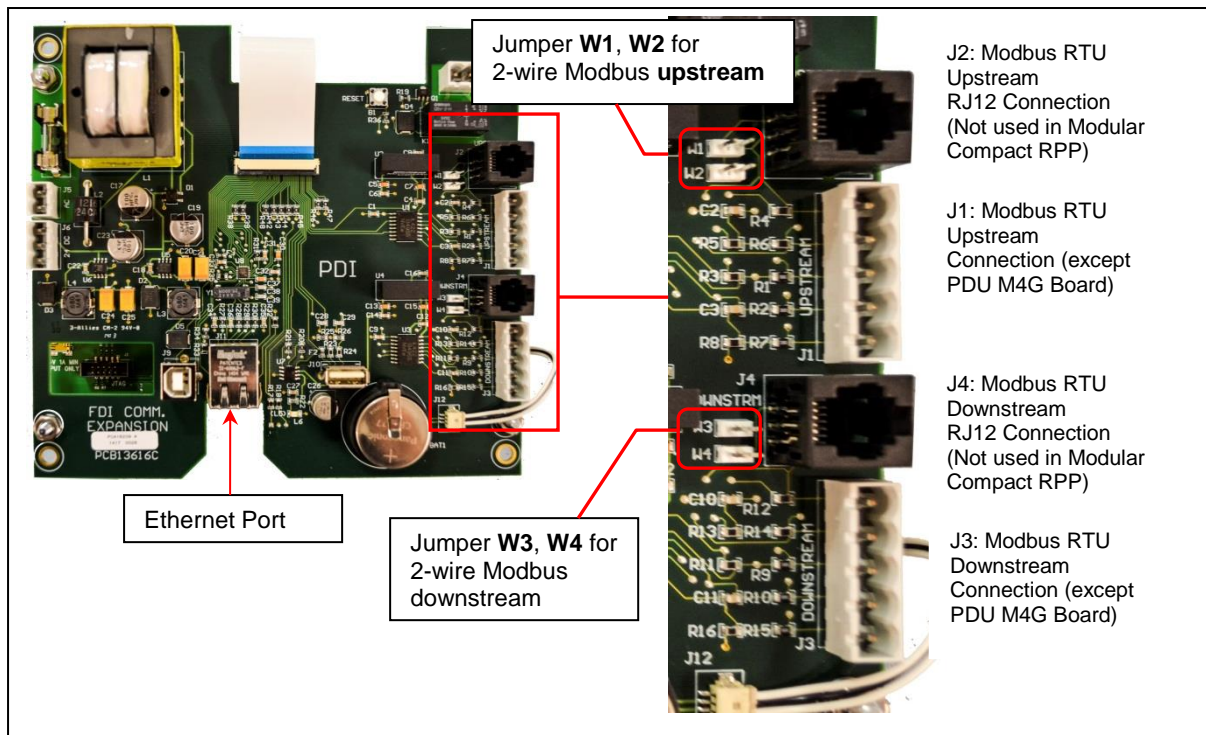

Figure 14 Color Monitor Backpanel Network Connections
The customer network Ethernet cable must be connected directly to the Color Monitor backpanel (Figure 14). The customer's choice of Ethernet cable determines the maximum length of Ethernet cable.
PDI devices have two (2) jumpers near their Modbus ports for configuring 2-wire vs. 4-wire Modbus RTU (see Figure 14). The Monitor's 2-wire configuration jumpers are W1 and W2 (upstream) and W3 and W4 (downstream). Upstream and downstream chains can be differently configured.